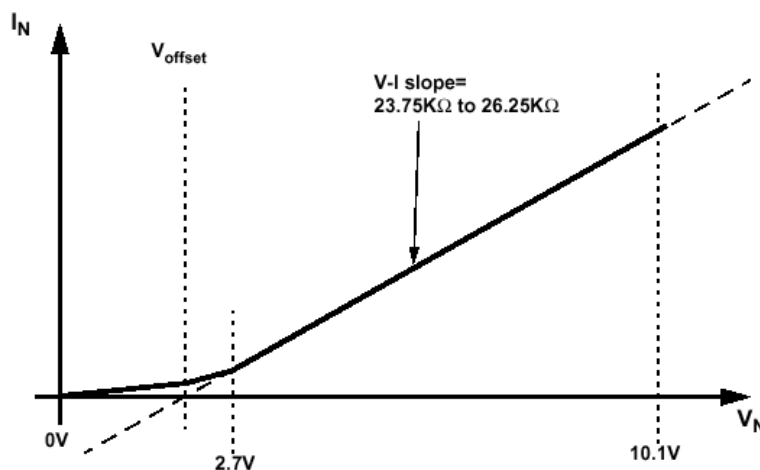

Figure 33C.20—Signature voltage offset
- [1] IEEE Std 802.3-2005 Edition: Section 33.3.3, Annex 33C.4, 33C.20, Figure 33C.19, Table 33-8
Discussion: If a PD will accept power, but is not powered, via the PI then it should present a valid detection signature at the PI between the positive and negative V_{Port} pins for both pinout Modes such that the attached PSE will properly detect the PD's request for power. The standard defines the signature to be comprised of five characteristics: a valid resistance, capacitance, and inductance; and either a voltage offset or a current offset. The voltage offset limit was specified to allow for the inherent voltage offset for two series diode drops. Similarly, the current limit allows for internal FET leakage. Given the minimum and maximum limits on the defined resistive slope, there are no minimum bounds for the offset components as a maximum current implies a minimum voltage, and vice versa. Figure 33C.20 of Annex C in Clause 33, reproduced below, illustrate the signature resistance and voltage offsets.
- [1] IEEE Std 802.3-2005 Edition: Subclause 33.3.3, Annex 33C.4, 33C.20, Figure 33C.19, Table 33-9